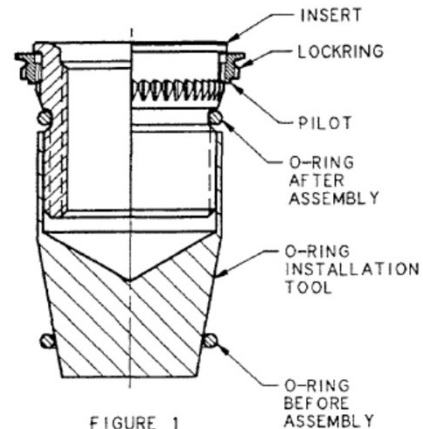

FIGURE 1
2. Slide the lockring over the insert thread and engage into insert serration such that the pilot of the lockring faces the thread. See Figure 1.